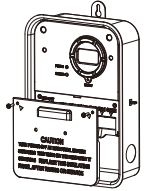

Figure 1
2. Remove the interior protective cover by loosening two screws holding on the middle of the board. (see Figure 1)